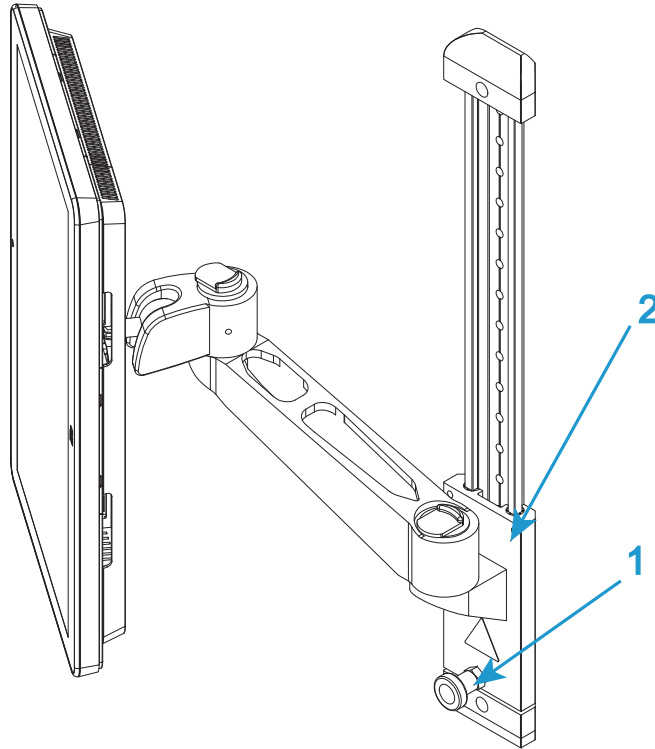

Figure 6. Height adjustment
1. You can adjust the height of the Bluehill[®] Operator Dashboard for the comfort of different operators. Loosen the lock (1 in Figure 6 on page 43) and slide the arm mounting (2 in Figure 6 on page 43) to the desired height. Re-tighten the lock.